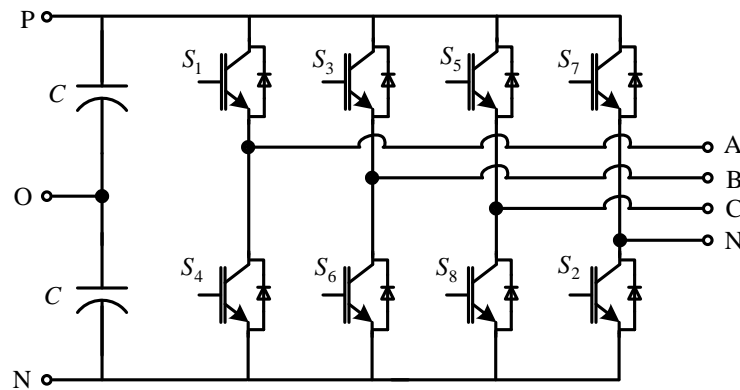

Fig. 6 Four leg inverter topology
b. Suggested Topology: Four Leg Split Capacitor Inverter as shown in Fig. 6.